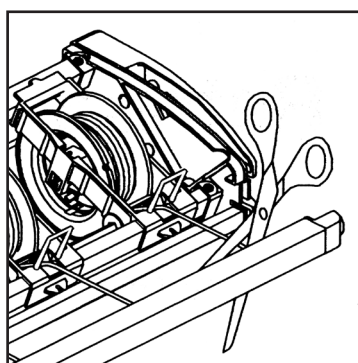

Fig 3
- Pull out the Arm from the Cabinet approximately 150mm (6"). If the Line is still attached to the Arm, cut it off and push the knot into the Arm and out through the hole in the bottom. See **Fig 3**.